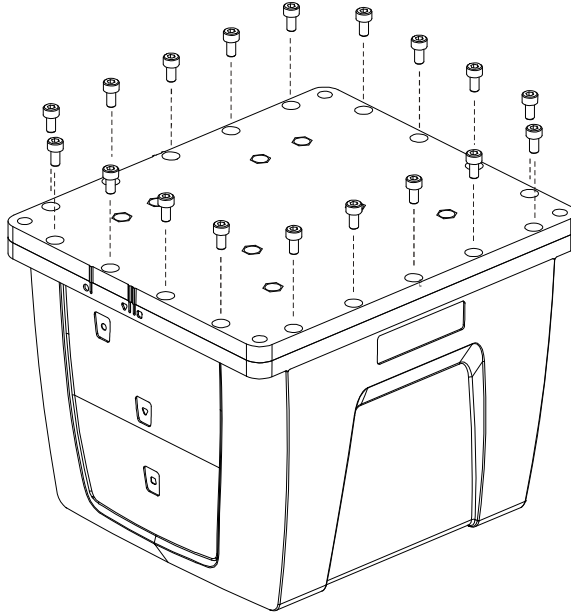

Figure 44: Remove Base
1. Using a 3 mm hex bit, remove the M4 screws (they will be reused) and the base, as shown in *Figure 44*. Ensure the O-rings come with the base when it is removed, and that they are not damaged.